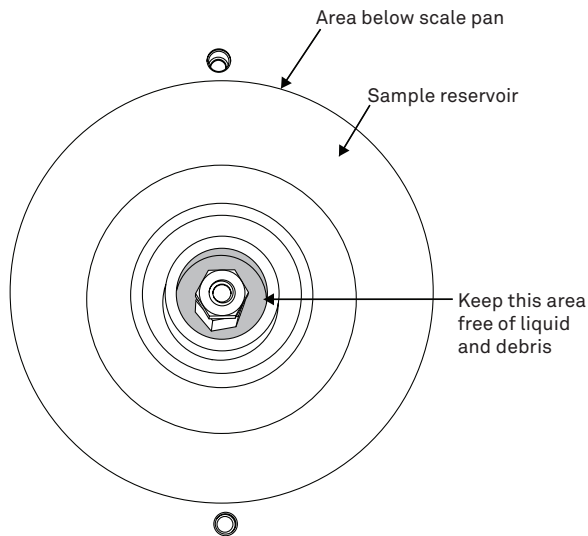

Figure 8 Sample reservoir
- If a spill occurs near the scale pan, remove the scale pan and soak up any liquids or debris in the reservoir under the scale pan Figure 8.
Keep liquid and debris out of the highlighted area in Figure 8. Failure to keep this area free of liquid and debris may result in degraded performance and/or costly repairs.